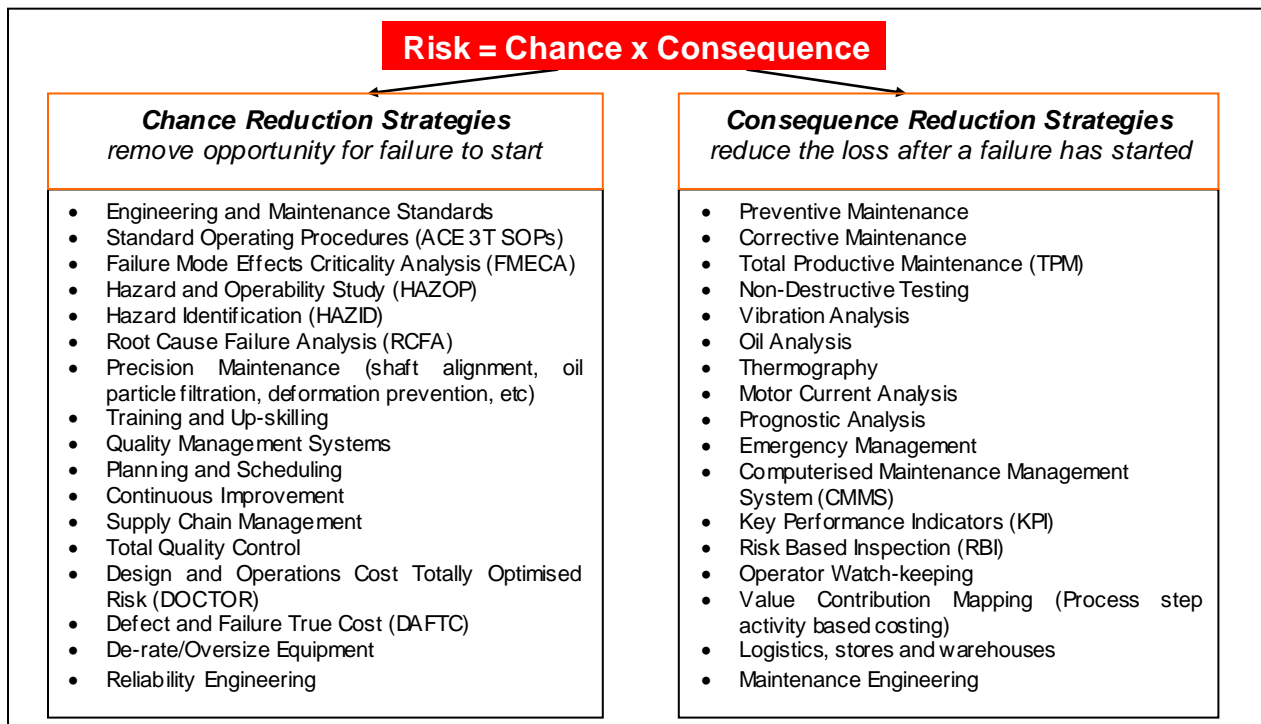

Figure 11 – Various Risk Management Methods
Figure 11 identifies many strategies available to control the risk placed on equipment parts. Those from the left-hand column reduce chance of failure. Those on the right only reduce cost of failure, but the chance remains unchanged. Notice in Figure 11 that Condition Monitoring (CM), as it is usually done, does not reduce the chance of failure. It only spots impending failure and lets you turn the repair work into a planned job instead of a breakdown. The failure has already been initiated, and if it is not addressed in time your equipment breaks down.